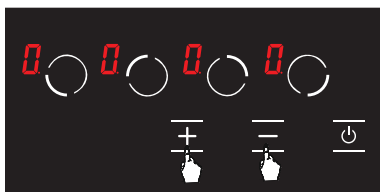

Figure 7
3. Cooking level of the relevant hob may be set from 1 to 9 using the  and the  keys or from  to 9 as per the option of the stove. (See Fig. 7)